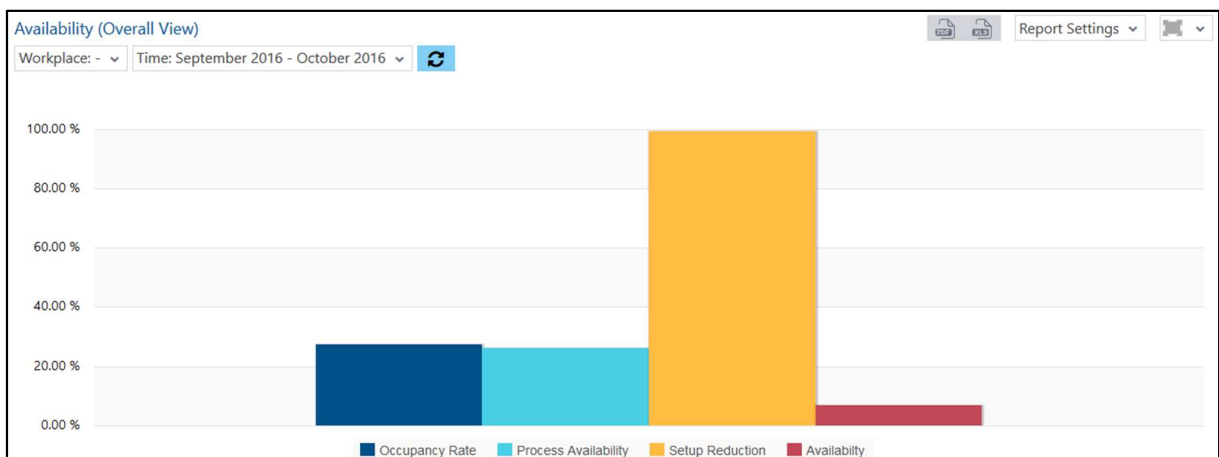

Fig. 49: Availability as a bar chart
- Availability as a column chart (Fig. 49):